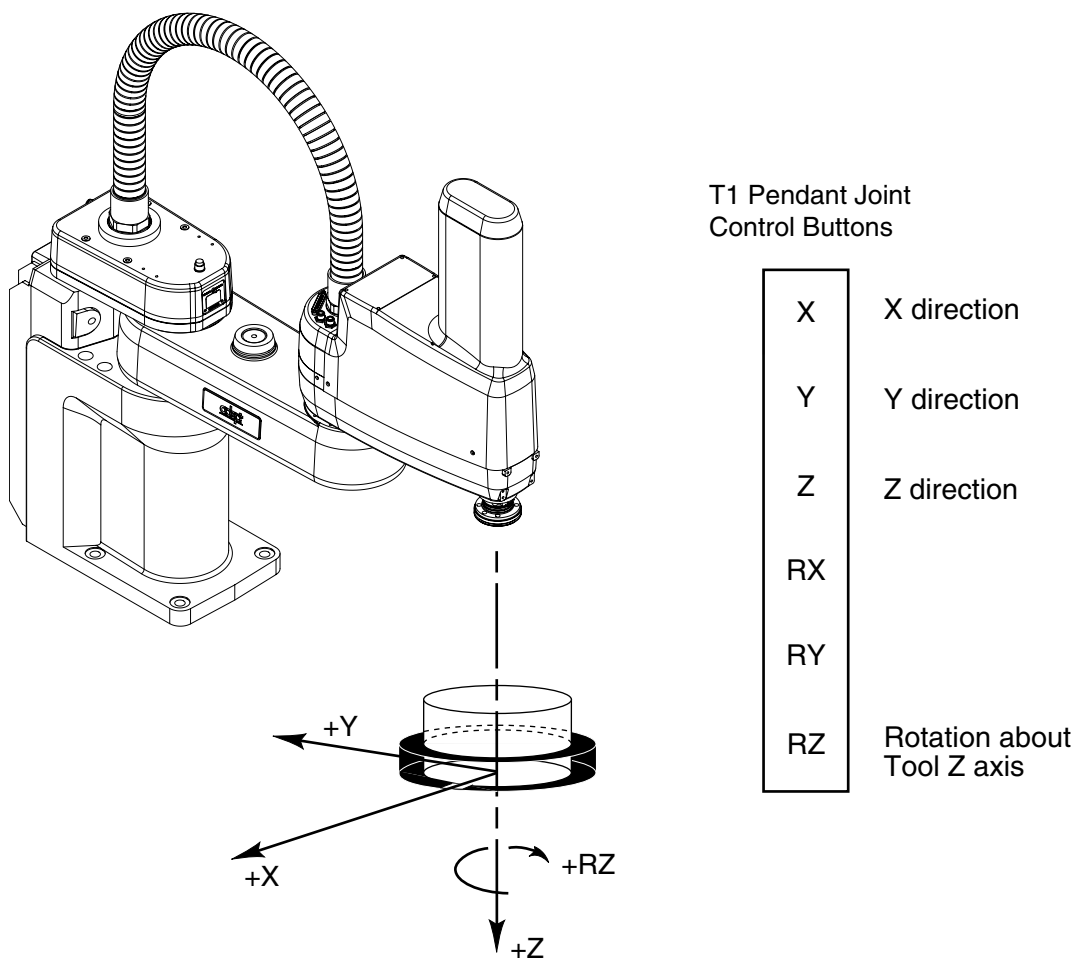

Figure 4-4. TOOL Mode (Four-Axis SCARA)
Select an axis of motion using the joint control buttons - see Figure 4-4. Pressing the “+” button moves the robot tool flange in the positive direction. Pressing the “-” button moves the flange in the negative direction. In a four-axis robot, positive rotation of the gripper (RZ) is clockwise as viewed from above.
NOTE: Figure 4-4 is drawn with the assumption that the TOOL transformation is set to NULL (all values are 0). If a TOOL transformation is in effect, the tool coordinate system will be offset and rotated by the value of the TOOL transformation. Any motion in tool mode will now be relative to the offset coordinate system, and not the center of the tool flange. See the V+ Language Reference Guide for details on TOOL transformations.